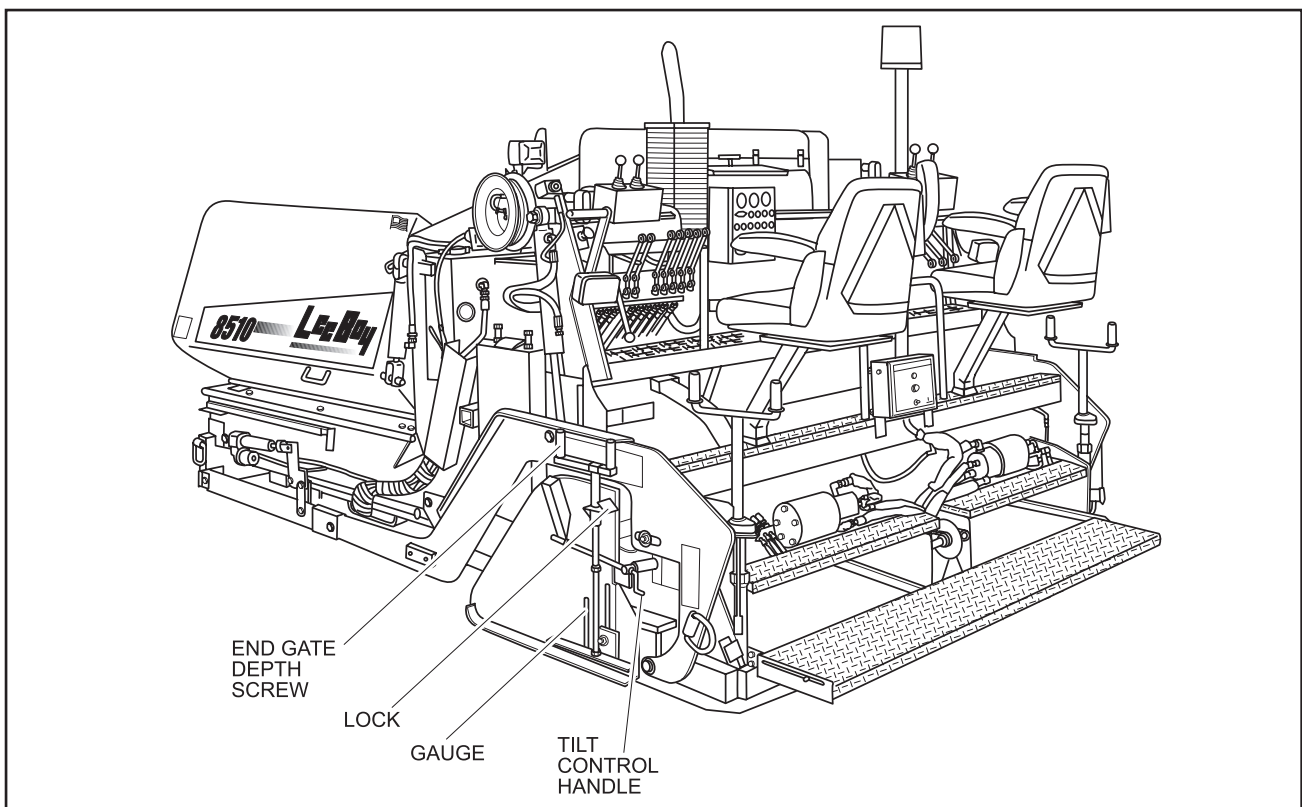

FIGURE 3-22. END GATES
1. On first pass unlock depth screws and lower endgate to about 1/4 inch (0.6 cm) of desired depth. This should provide a nice square edge (see Figure 3-22).